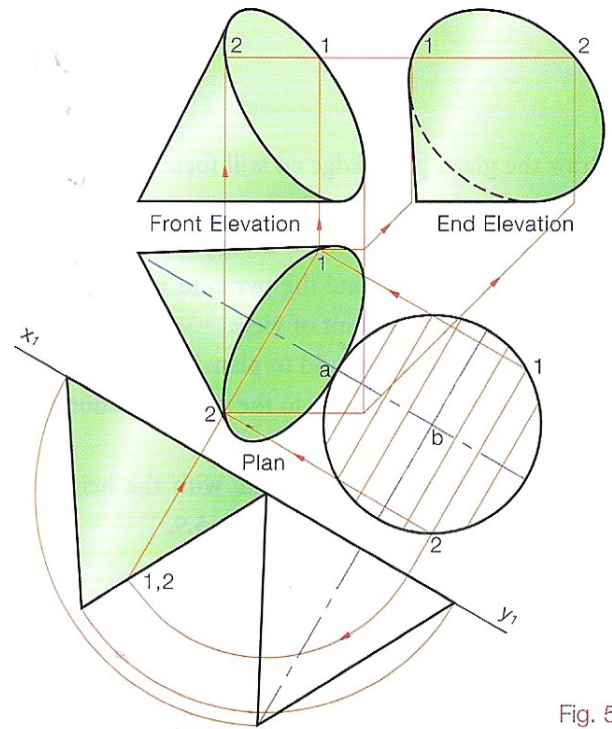

Fig. 5.13
- (1) Draw the plan of the cone with the base on the horizontal plane.
- (2) Draw an auxiliary elevation of the cone with x_1y_1 parallel to the generator ab .
- (3) Rotate the cone in the auxiliary.
- (4) The circular base is divided into parts and the points are projected through the views to locate the ellipses in all three views, Fig. 5.13.